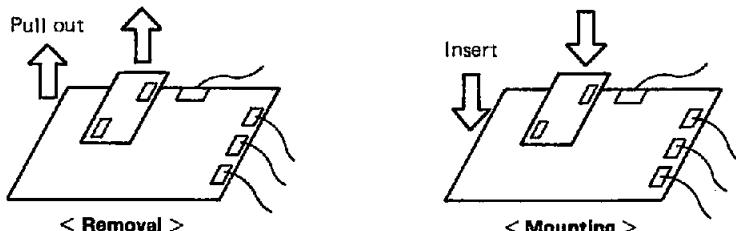

Fig. 8-21-3 Battery Replacement
2) Replace only the battery PC board on the temperature control amplifier PC board with no connectors disconnected from the temperature control amplifier PC board as shown in Fig. 8-21-3.